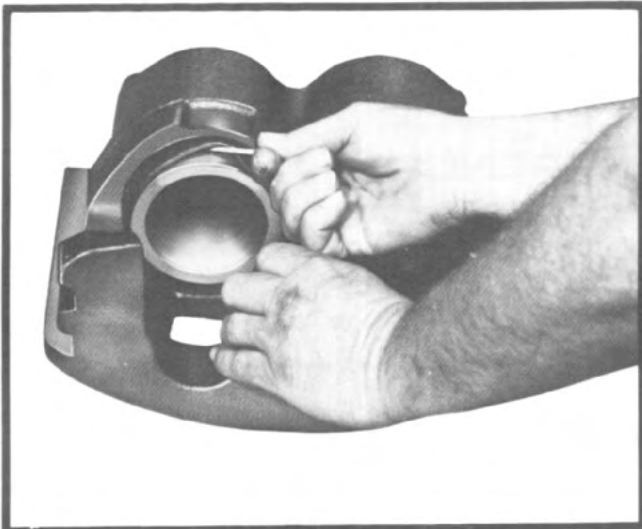

Fig. 32—Working boot around closed end of piston.
(3) Install dust boot in its cylinder groove similar to installation of the piston seal.
(4) Coat the outside diameter of the piston with brake fluid.
(5) Use a small flat plastic tool to gradually work dust boot around the piston. (Fig. 32)